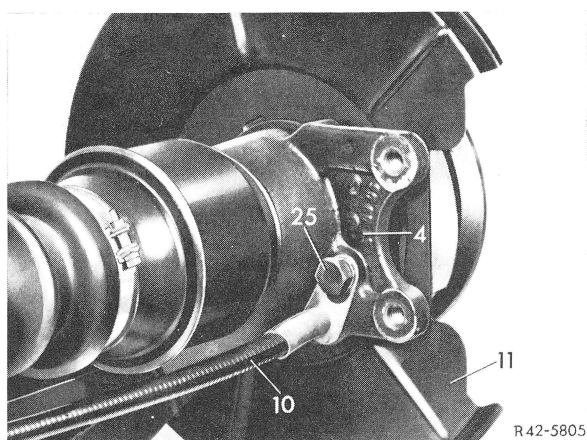

Fig. 1
2 On vehicles with diagonal swing axle, unscrew hex. bolt (25) from wheel carrier (4) and remove brake cable control (10) (Fig. 1).